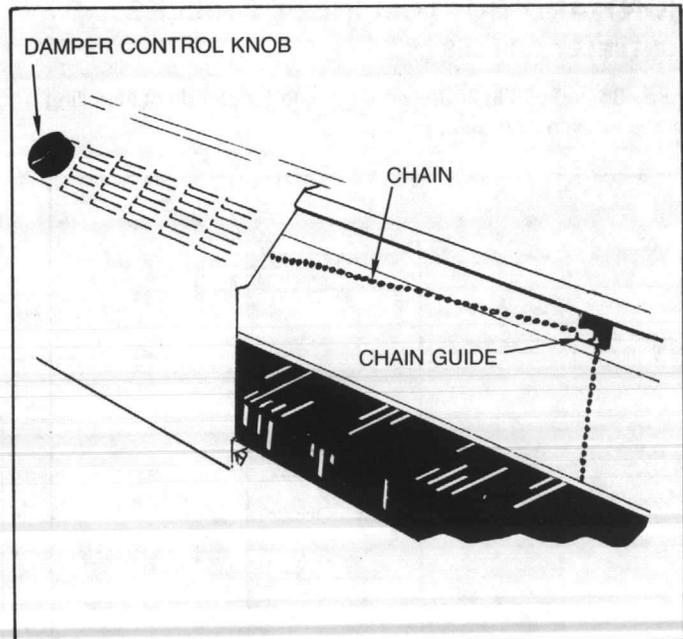

FIGURE 41 - Damper Control Knob, Cog Mechanism, and Chain Guide Position
**NOTE:** Before installing the damper control knob cog mechanism on the enclosure, make sure there will be 24 inches between the cog mechanism and the chain guide, which is secured to the mounting strip. (See Figure 41.) This distance is necessary to provide a proper angle for the chain for damper operation.